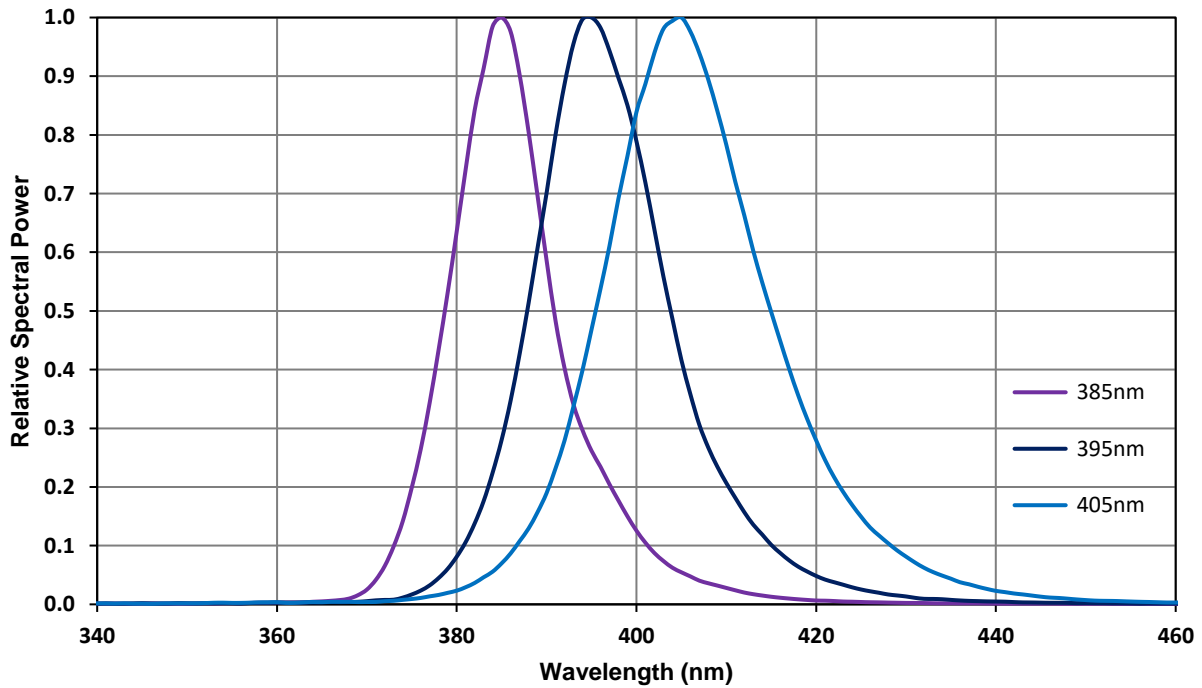

Figure 5: Typical relative spectral power vs. wavelength @ $T_C = 25^\circ\text{C}$.
- Solder conditions per JEDEC 020D. See *Reflow Soldering Profile* Figure 5.